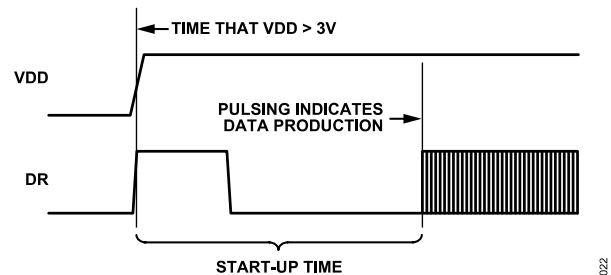
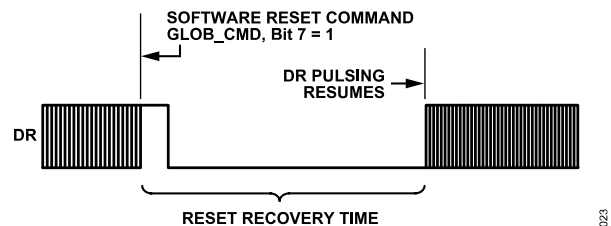
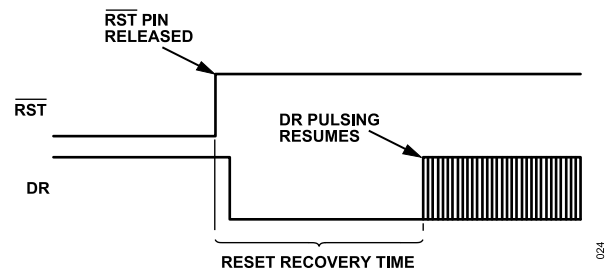

Figure 36. Data Ready Response During Startup
Figure 37. Data Ready Response During Software Reset (Register GLOB_CMD, Bit 7 = 1) Recovery
Figure 38. Data Ready Response During Reset ($\overline{RST} = 0$) Recovery
During the start-up and reset recovery processes, the data ready (DR) signal can exhibit transient behavior before data production begins. Figure 36 provides an example of the DR behavior during startup, and Figure 37 and Figure 38 provide examples of the DR behavior during recovery from reset commands.